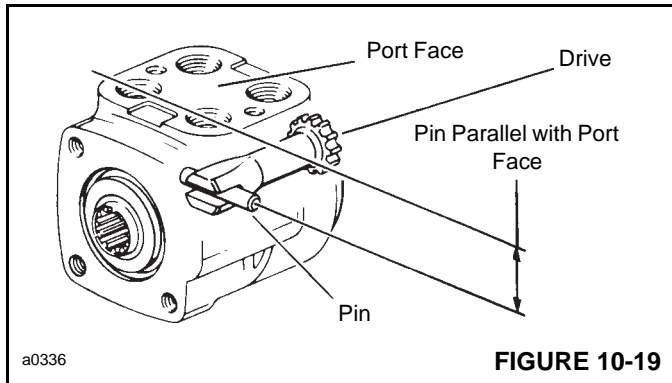
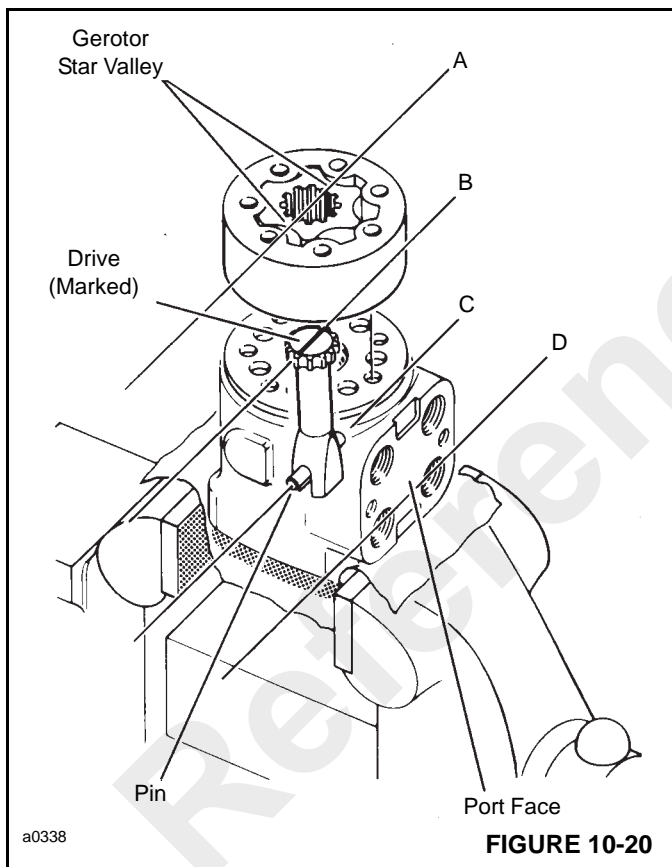

FIGURE 10-19
FIGURE 10-20
19. Install seal (13) into groove in housing (8). Install spacer plate (14). Align bolt holes in spacer plate with tapped holes in the housing.
20. Rotate the spool and sleeve assembly until pin (11) is parallel with the port face (see Figure 10-19). Install drive (15, Figure 10-9), Make sure you engage the drive with pin (11). To ensure proper alignment, mark the drive as shown in Figure 10-20, Ref. B. Note relationship